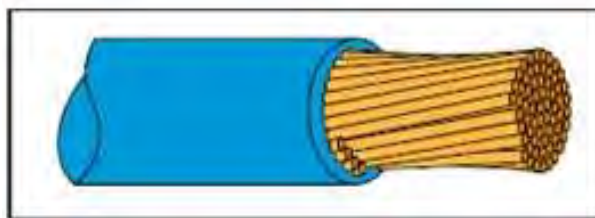

Figure 170
- a. Broken, nicked, or cut strands as listed below and shown in Figure 170.